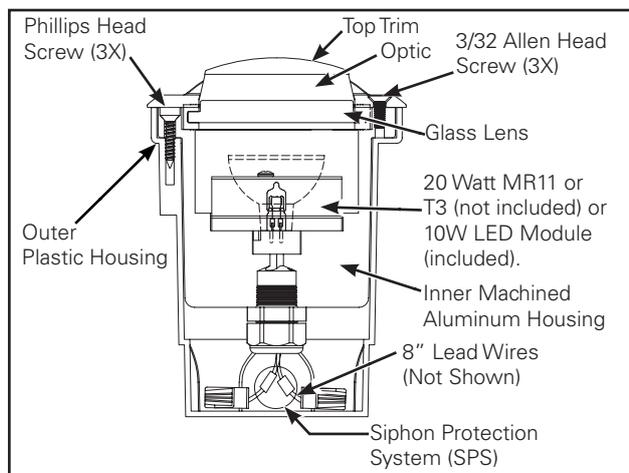

Figure 1.
1. Remove three screws from top trim using a 3/32 Allen wrench. Set trim and three screws aside in a clean, dry place. (Figure 1.)